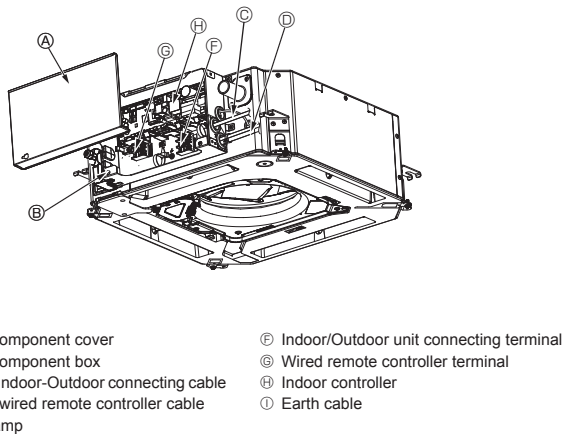
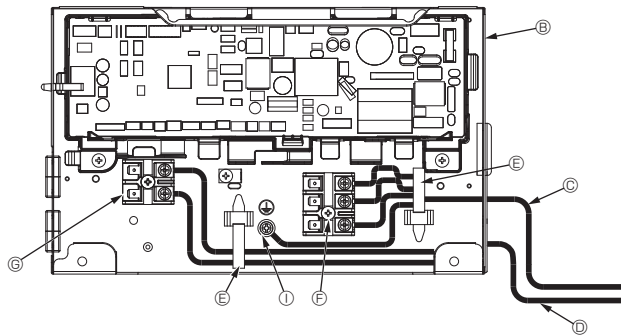
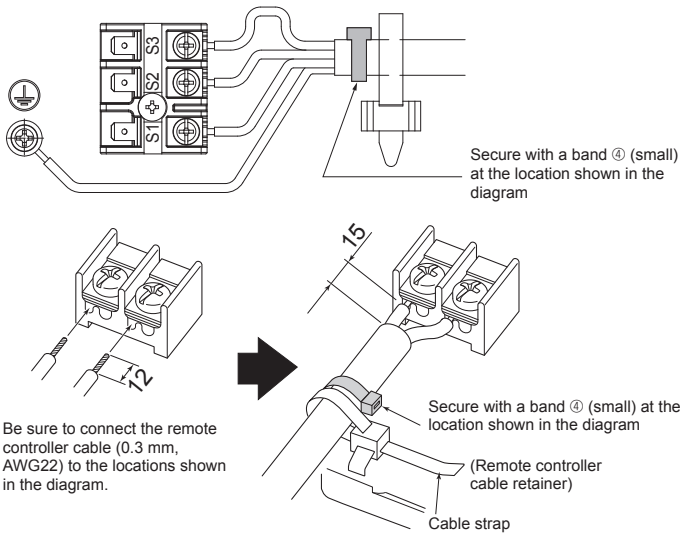

Fig. 7-1
Fig. 7-2
Fig. 7-3
7.2. Indoor unit (Fig. 7-1) (Fig. 7-2) (Fig. 7-3)